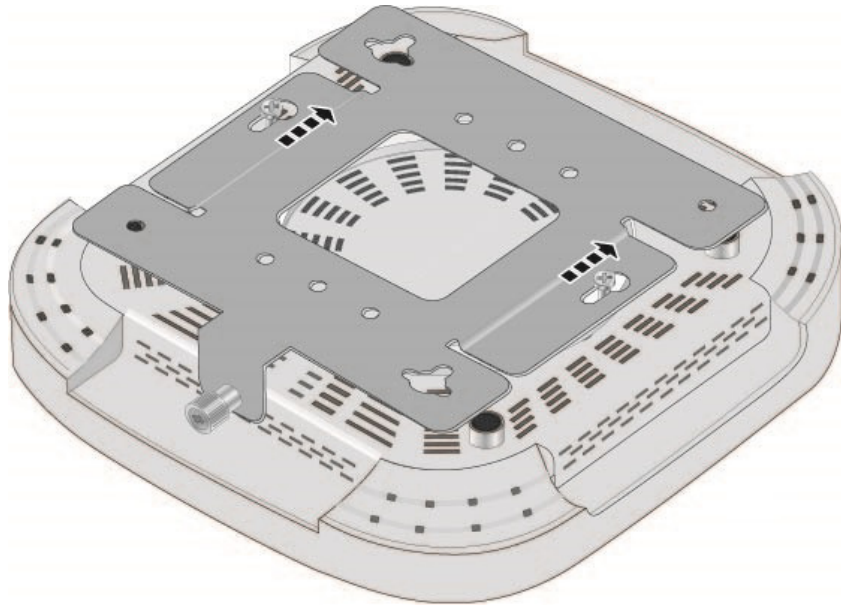

Figure 12. Attaching the Mounting Bracket on the Access Point
2. Install the mounting bracket on the access point by sliding the keyholes under the screws. Refer to Figure 12 on page 46.